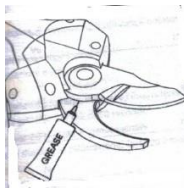

Fig. 6
3. Apply grease between the movable and fixed blades (Fig. 6) with the pipette supplied.